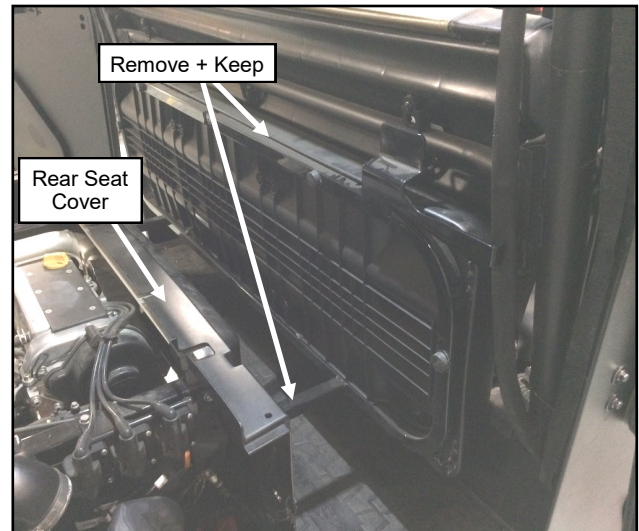

Fig. 2.4 (Remove Seat Bottom Cushion with Frame)
- 2.4** Remove and set aside the vehicle's rear seat bottom cushion and frame by removing the (4) bolts holding on the assembly and the base of the Rear Seat Cover per fig. 2.4.